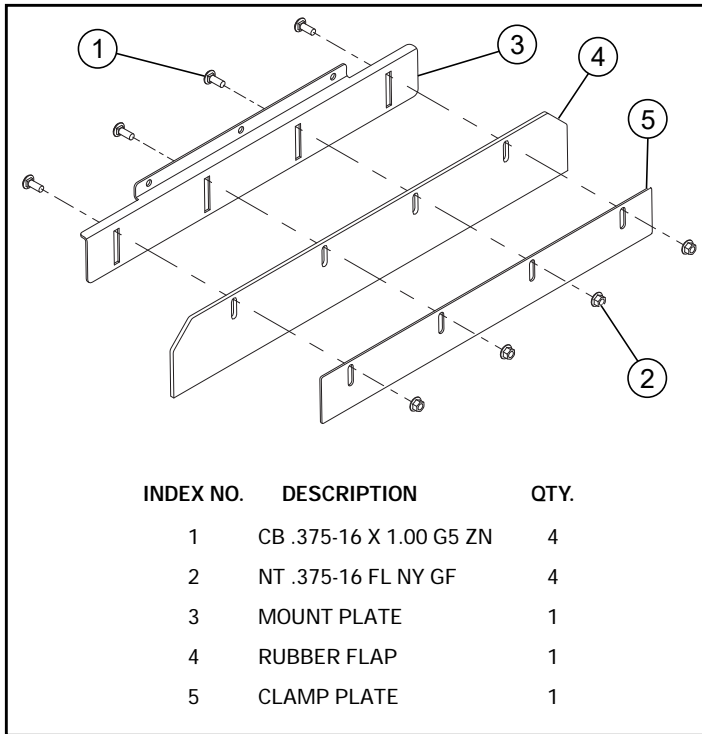

FIG. 1
2. Assemble the stripe kit. Fig. 1